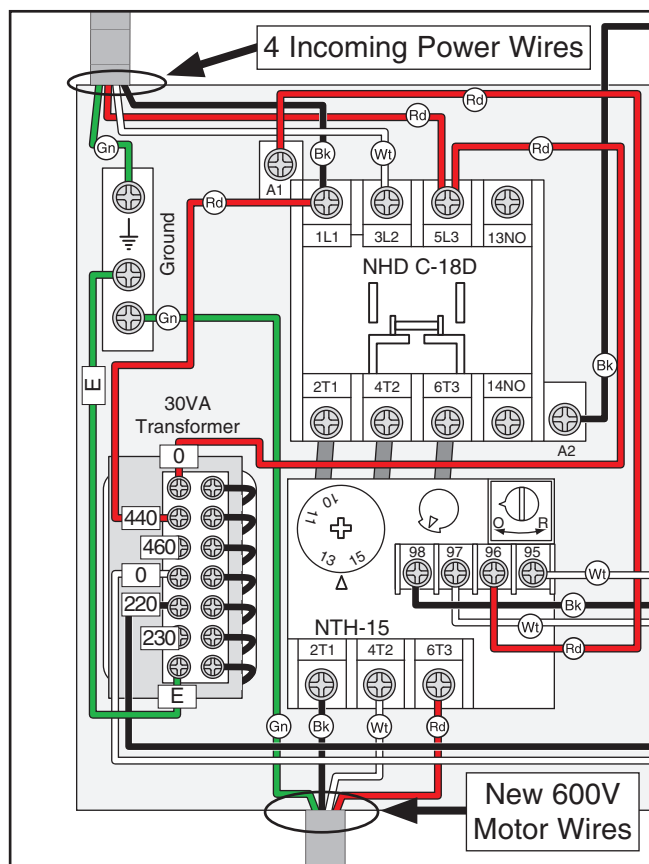

Figure 3. Model G0637 440V control box wiring.
2. Disconnect existing incoming power and 300V motor wires from the control box (use illustration in **Figure 3** for a general reference), then replace 220V control box with 440V control box.
4. Connect new 600V motor cord wires to control box, as shown in **Figure 3**.